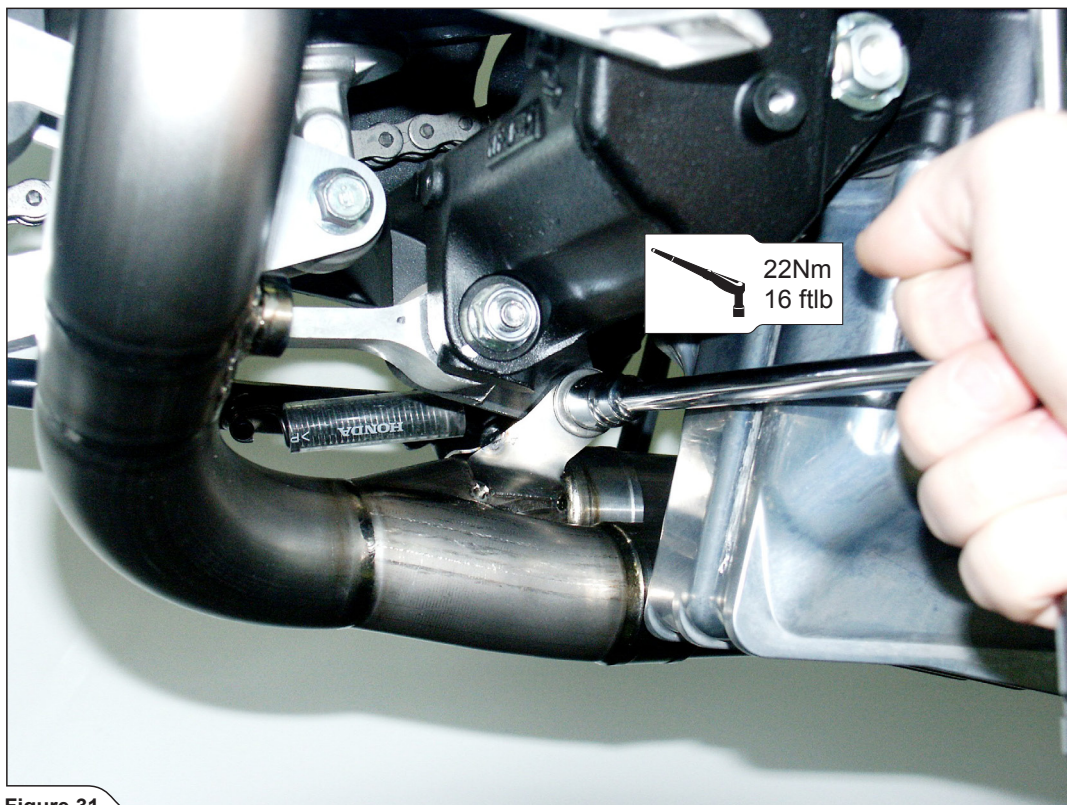
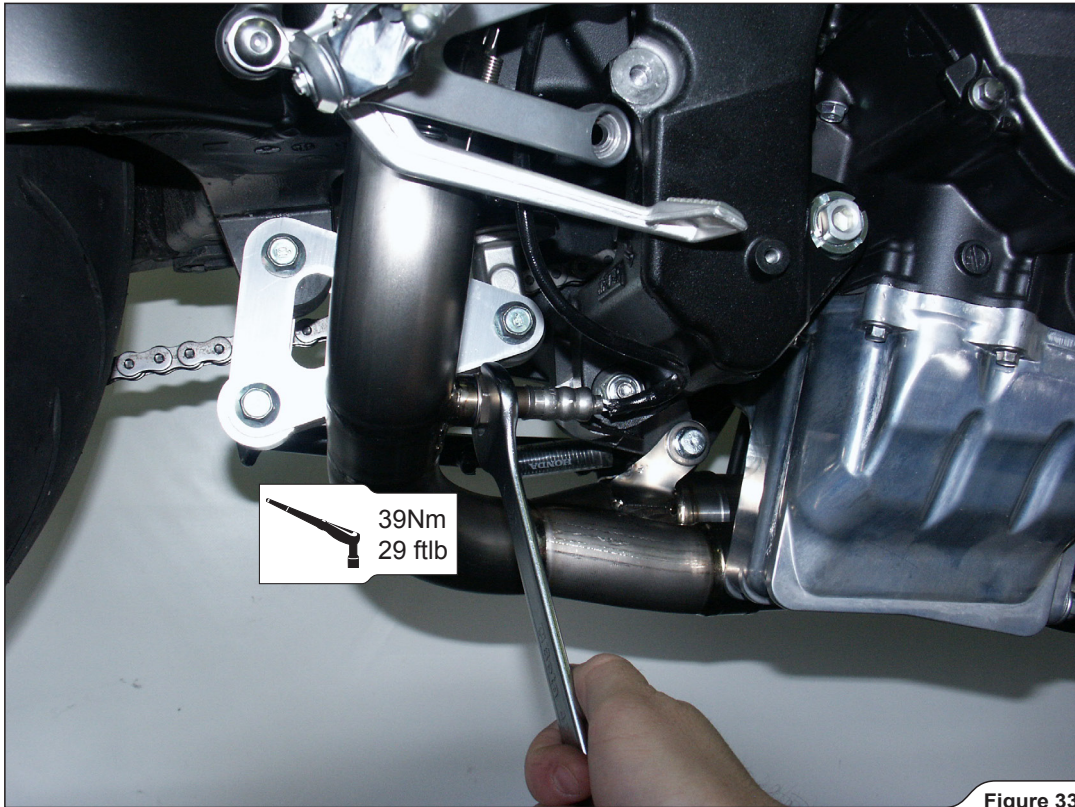

Figure 31
Figure 33
5. Attach the lower and upper link pipe bracket (**Figure 31, 32**). Make sure the link pipe is not touching the frame and other parts. Tighten the lambda sensor. Make sure not to damage the sensor's electrical lead (**Figure 33**).